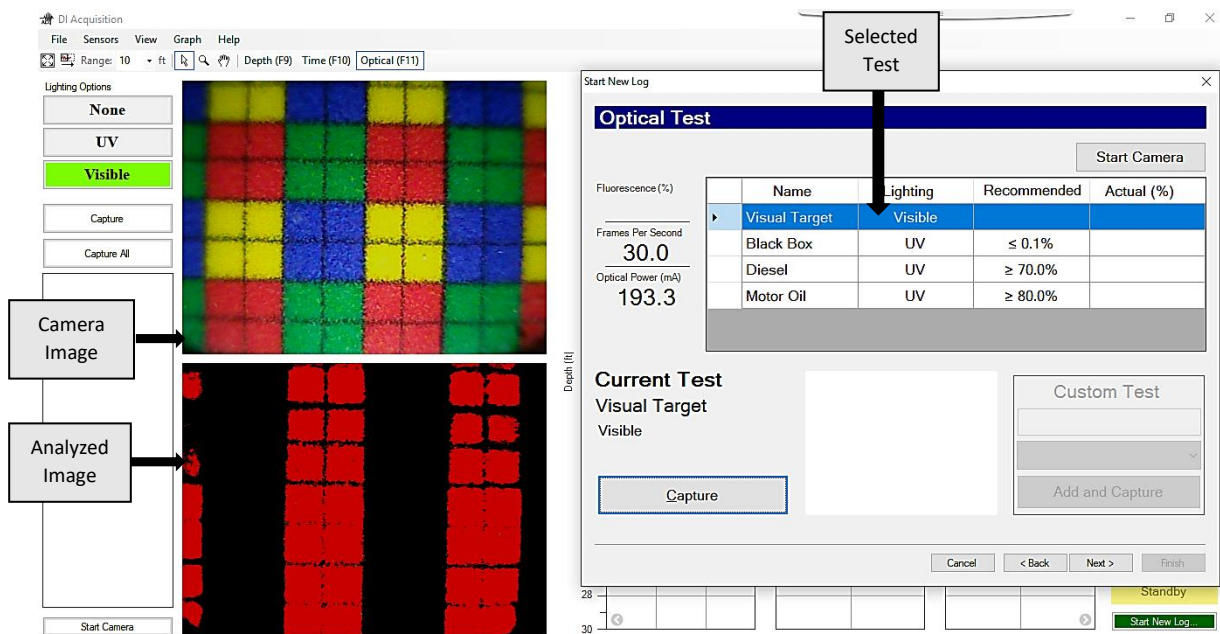

Figure 5.7 DI Acquisition OIP QA Screen with Visible Target
3. Place the visual target on the Cuvette Holder or a business card over the window. Using the camera display, verify that the image on the card is in focus and displaying the proper color. Capture the image for the visible target test (Figure 5.7).